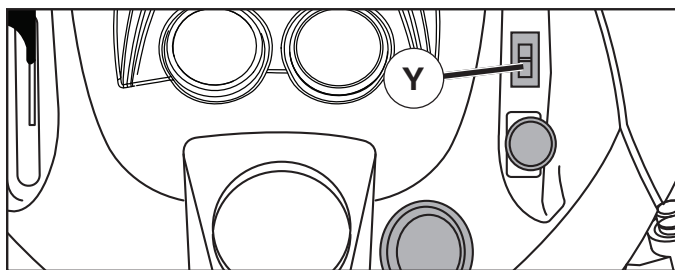

Fig. 13
TO USE DIFFERENTIAL LOCK CONTROL (Y) (See Fig. 13)